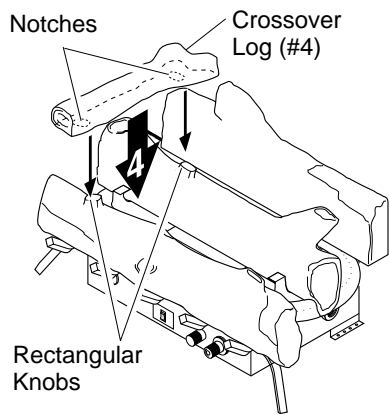

Figure 25 - Installing Crossover Log (#4)
4. Locate the notches in the bottom of the crossover log (#4). Place the crossover log on top of the middle log and front log. Make sure the notches of the crossover log lines up with rectangular knobs on top of the middle and front logs (see Figure 25).